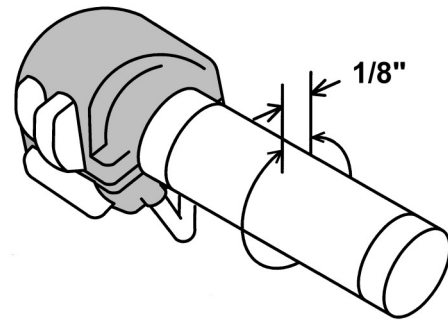

Figure 4: Throttle free-play
6. Turn the handlebar to the right and adjust the throttle free-play with the closing cable adjuster to approximately 1/8" (see Figure 4).